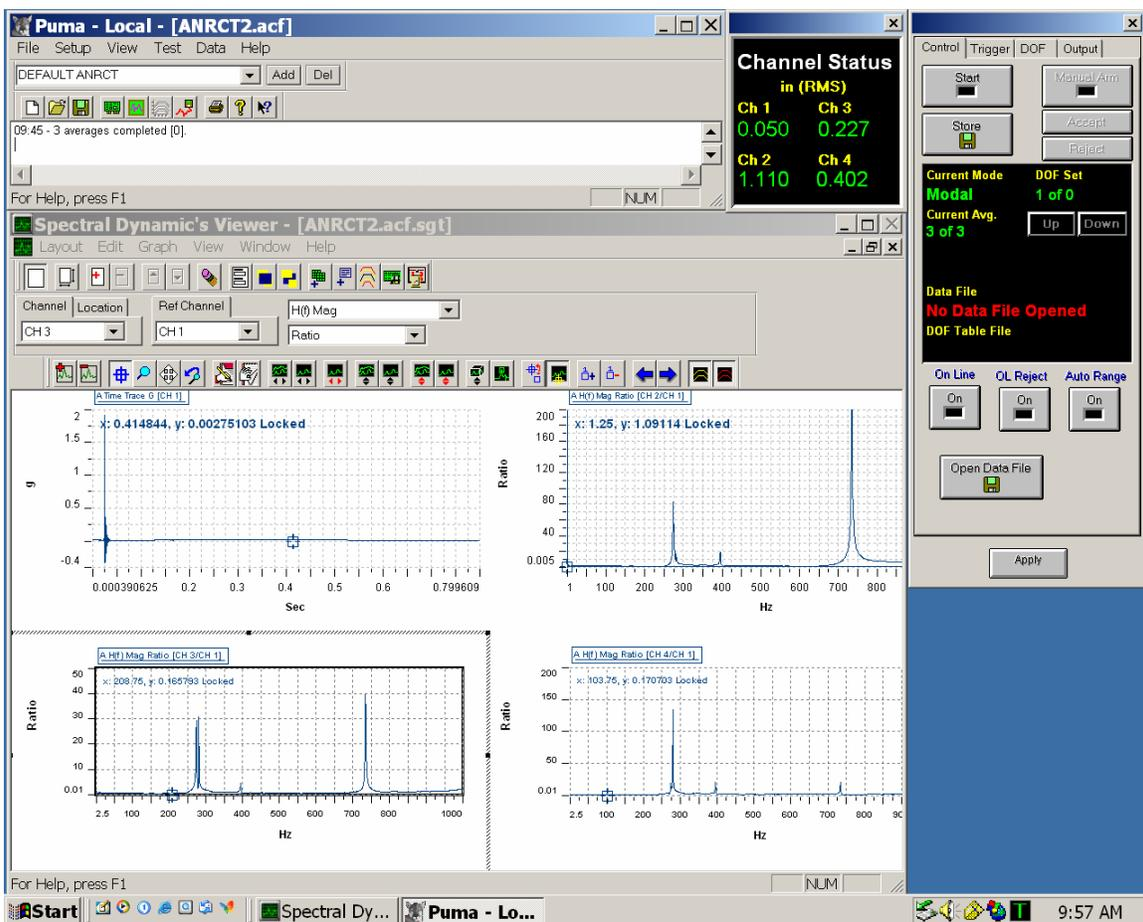

Figure 18
1) If the impact was of sufficient force to cause the system to Trigger, and if Manual Accept is set on the Trigger tab, the Accept/Reject buttons will turn from gray to black. Check the Channel Status and make sure that all the channels are Green and none of the channels are overloaded (Red). Also, look at Plot 1, and make sure that you did not get a double hit. At this point, you can either choose to Accept or Reject the average. Once, you've the clicked Accept button, repeat these steps until the averaging process is complete (current average is 3 of 3) as shown in Figure 18.